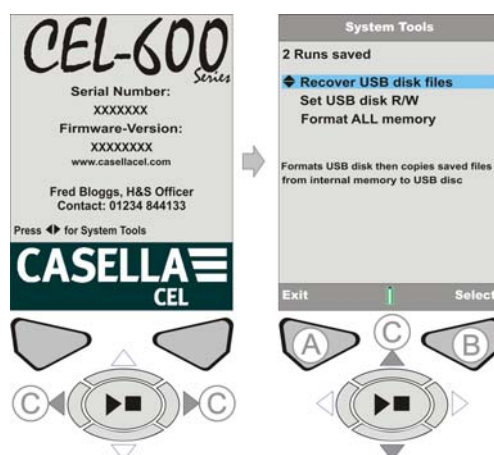

Figure 17 System Tools
M. SYSTEM TOOLS (Refer to Figure 17)